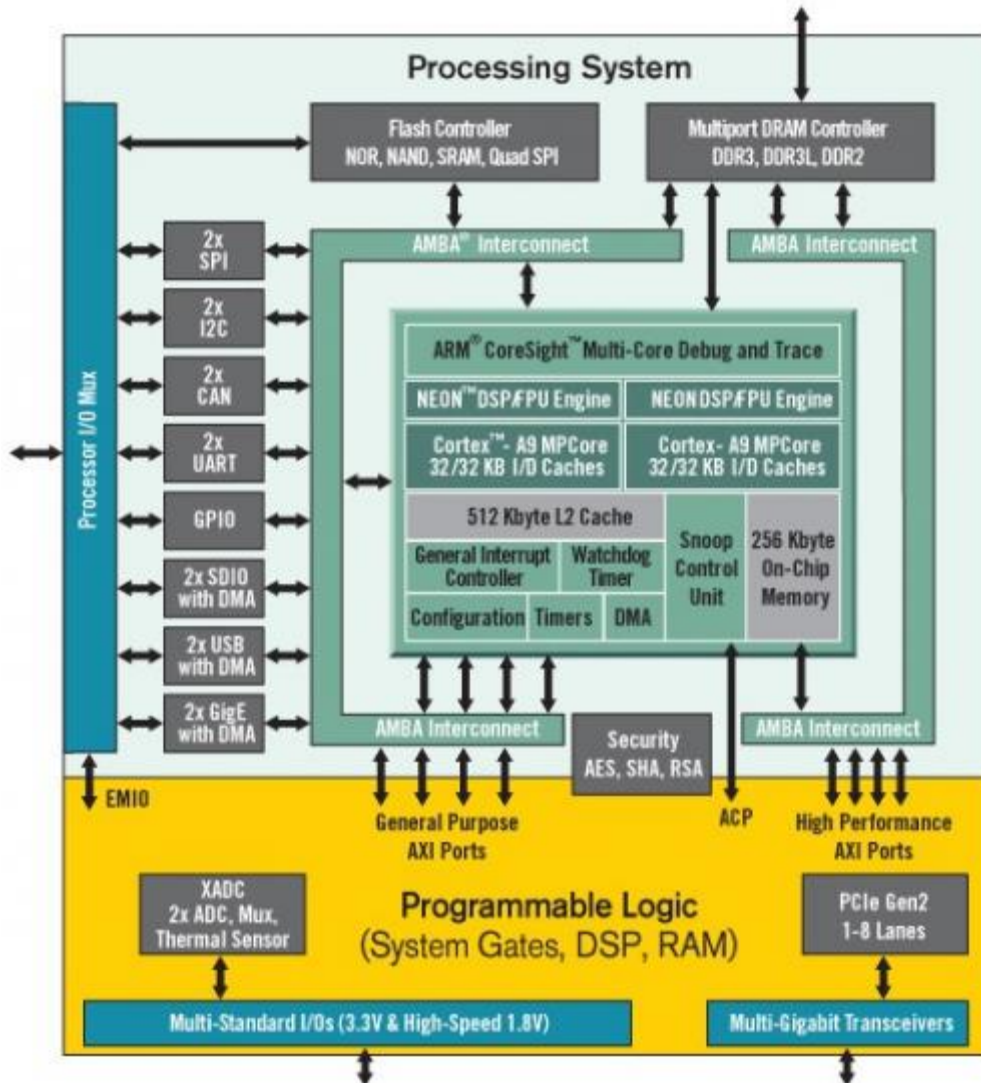

Figure 2.1 Zynq APSoC architecture
The Zynq APSoC is divided into two distinct subsystems: The Processing System (PS) and the Programmable Logic (PL). Figure 2.1 shows an overview of the Zynq APSoC architecture, with the PS colored light green and the PL in yellow. Note that the PCIe Gen2 controller and Multi-gigabit transceivers are not available on the Zynq-7020 or Zynq-7010 devices.